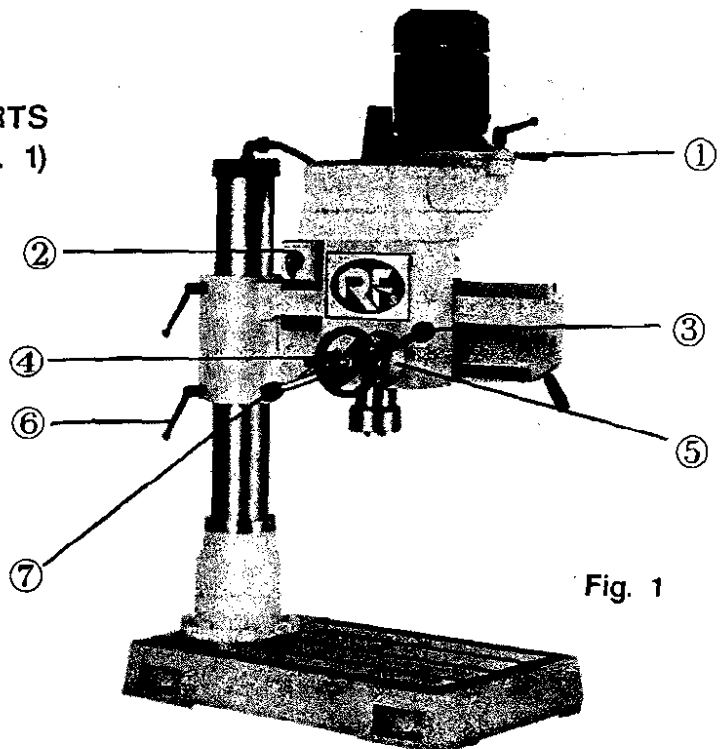

Fig. 1
- (1) Your machine has been coated with a heavy grease to protect it in shipping. This coating should be completely removed before operating the machine. Commercial degreaser, kerosene or similar solvent may be used to remove the grease from the machine, but avoid getting solvent on belts or other rubber parts.
- (2) After cleaning, coat all bright work with a light lubricant. Lubricate all points in Fig. 1 with a medium consistency machine oil.
- (3) Lubricating points as shown in arrows.
- (1) Grip
- (2) Forward/Reverse switch
- (3) Handle rod for hand wheel
- (4) Hand wheel
- (5) Indicator
- (6) Lock handle
- (7) Rack handle rod
- (See Fig. 1)